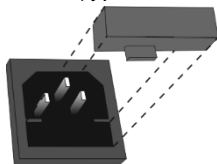

Figure 7. Fuse replacement
12.4. **Fuse replacement.** Disconnect from electric circuit. Remove the power plug from the rear side of the unit (fig. 1/2). Pull out the fuse holder by applying leverage in recess (figure 7). Remove the fuse from the holder. Check and replace with the correct fuse if necessary, **M** 3.15 A for 230 V and **M** 6.3 A for 120 V (type **M** - time lag: **Medium**).